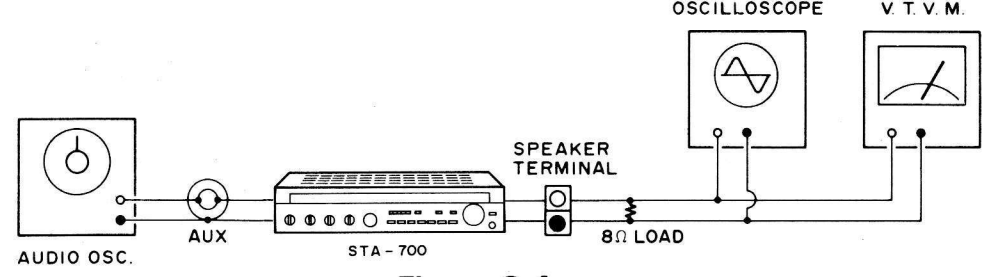

Figure 8-4
- Connect V.T.V.M. to Speaker terminals. (Figure 8-4)
Same Equipment Connection as Figure 8-4.